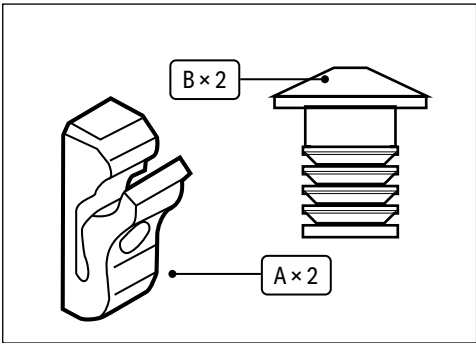
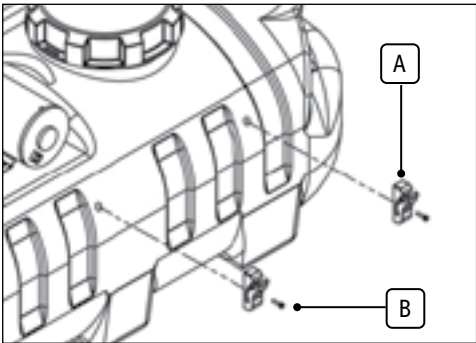

Fig. 1
Fig. 2
6.1 Attaching Spray Gun Lance Clips to Tank (Fig.1 - Fig.2)